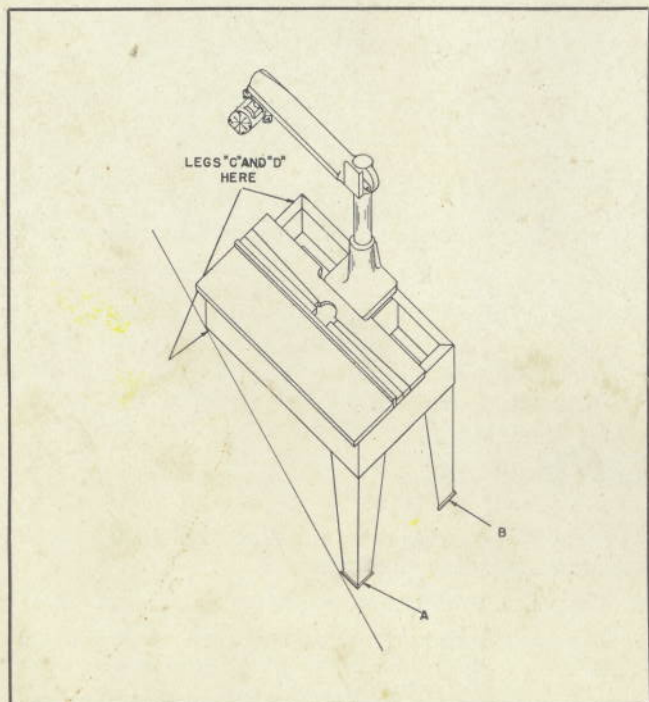

FIGURE 1
3. Attach legs to GW machine by pulling the motor to the end of the arm and locking it in that position. Turn the arm and lock it in the position shown in figure 1. Tilt the table until it rests on the floor and you can bolt legs A and B to the table frame. Reverse the position of the arm. Raise the table and securely prop the unsupported end with a wooden brace. With the machine in that position, securely bolt legs C and D to the machine frame.